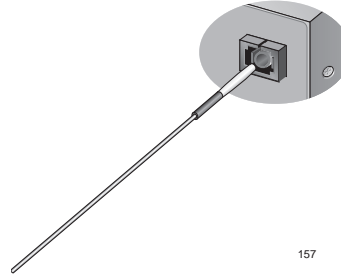

Figure 31. Cleaning a Recessed Ferrule
1. Insert the swab into the adapter as shown in Figure 31. Rub the ferrule tip with the swab.